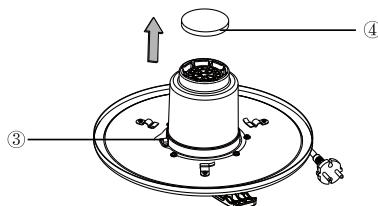

Fig 12
IMPORTANT: If there is no cartridge filter for fine ash dust mounted on the power head, the ash vacuum cleaner cannot be switched on. The equipment comes with a switch (③) which allows operation only when it is pressed and when a cartridge filter is fitted (Fig. 12).
2. Cleaning foam filter: Remove the foam filter (④) and use a mild soap and water solution to wash and rinse with clean water. Allow filter to air dry before installing and using again (Fig. 12).